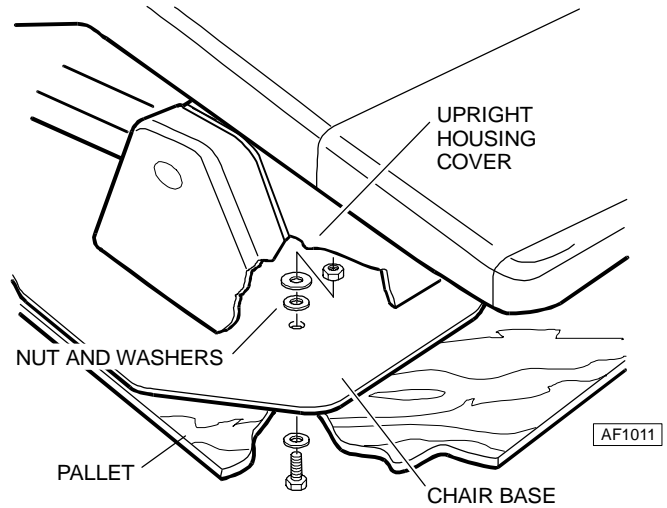

Figure 3
4. Locate the two nuts at the front of the chair base (beneath the upright housing cover) that secure the chair to the pallet. Using an adjustable wrench, remove the nuts, washers and bolts (see Figure 3).